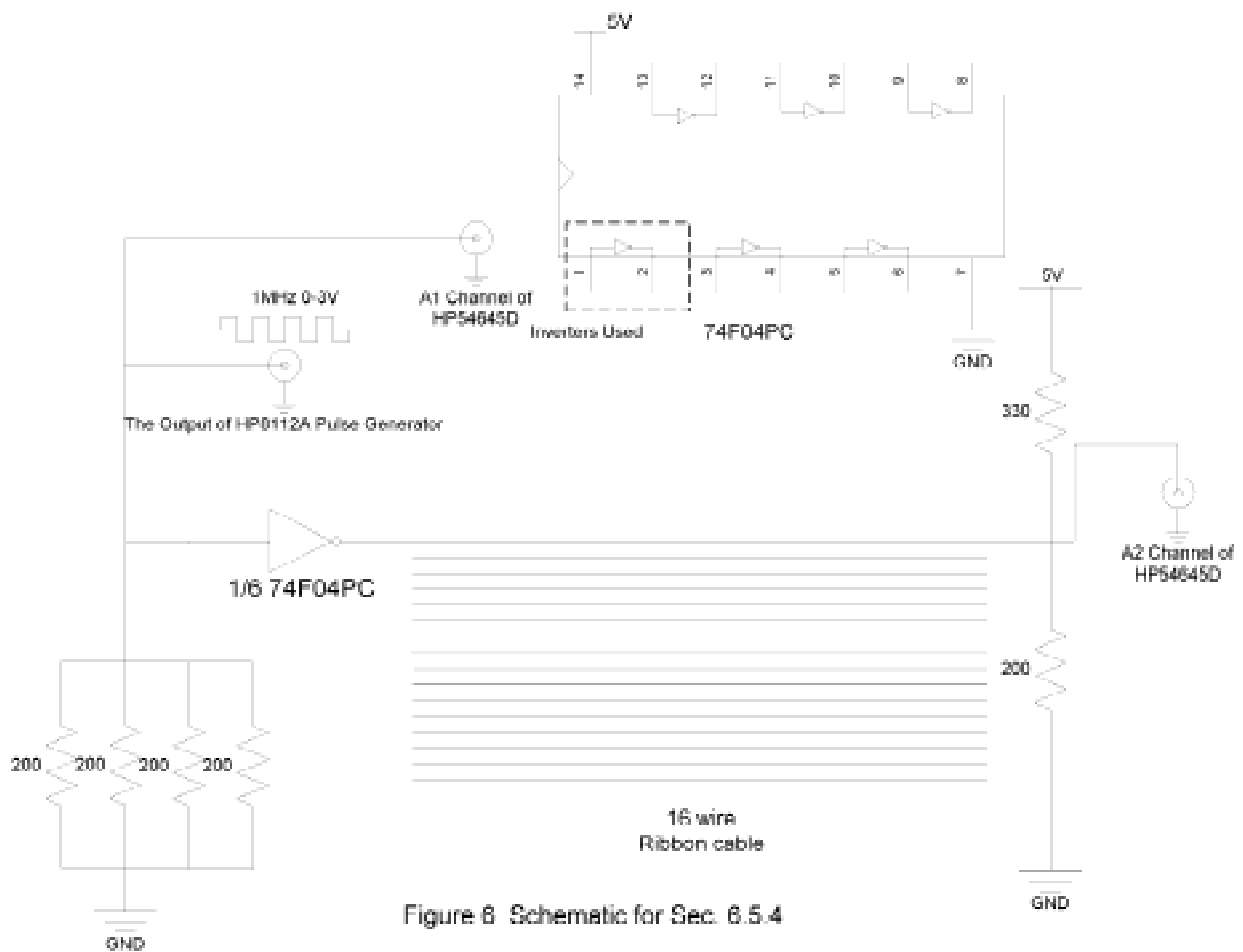

Figure 6 Schematic for Sec. 6.5.4
4. Terminate the transmission line by placing two resistors at the end of the ribbon cable – 330 Ω to V_{CC} and 200 Ω to ground. Since these resistors are being placed in parallel with respect to the transmission line, the overall resistance is about 125 Ω . This value is sufficiently close to the characteristic impedance of the ribbon cable (100 Ω) for our purposes. How does this termination affect the waveform? Measure the new V_{pp} , record it on the checkoff sheet, and show the waveform to the TA. Refer to Figure 6 for schematic.